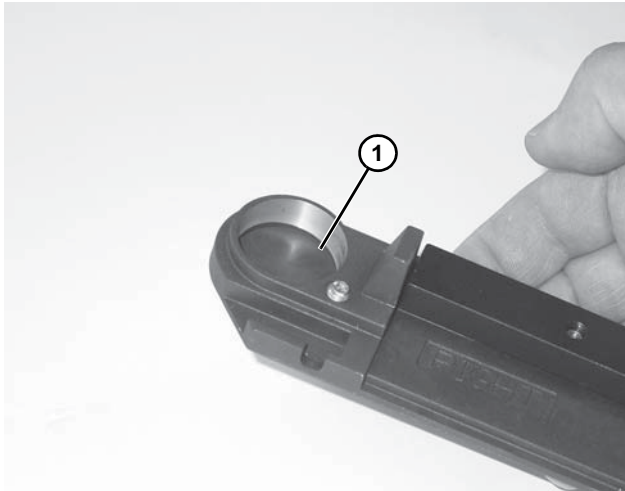

Figure 38
1. Inspect the head plates bearing seating surface (**Figure 38, item 1**). If they are worn or damaged, replace. See “Service Parts” on page 20.